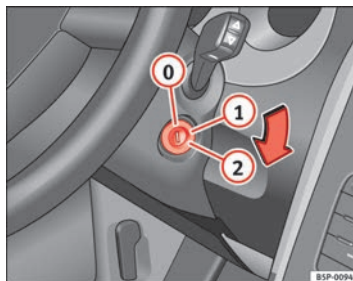

Fig. 138 Ignition key positions
In this position ⇒ Fig. 138 the ignition and the engine are OFF and the steering may get locked.
- Turn the ignition key to position ⇒ Fig. 138 ①. The warning lamp  will light for engine pre-heating.
- When the lamp turns off, turn the ignition key to position ② to start the engine. Do not press the accelerator.
- Turn the ignition key to position ⇒ Fig. 138 ①.